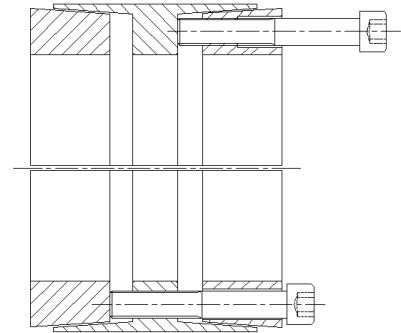

Figure 2
3. Using the modified screws from Step 1, insert into all jacking holes located in front collar (see top of Figure 2).
5. Once the front collar is removed, insert the same screws into the integrated jacking holes in the center shoulder and repeat Step 4 to release the back collar (see bottom of Figure 2).